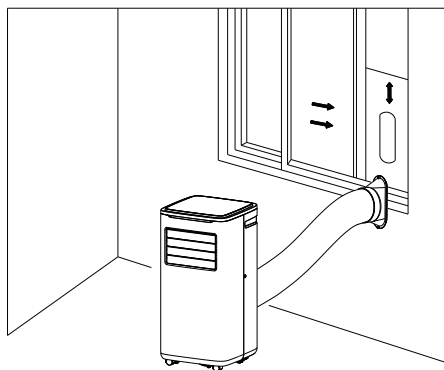
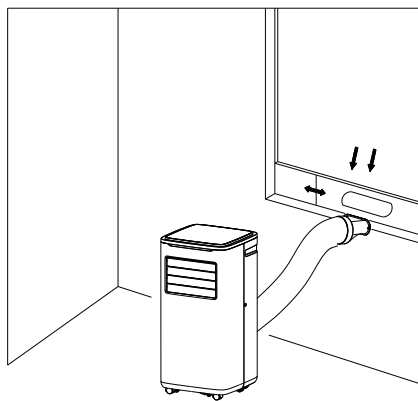

Fig.5
Fig.6
2) Elongate the exhaust pipe and snap the flat end of the exhaust pipe joints into the hole of the window sealing plate assembly (as shown in Fig.5 and Fig.6).